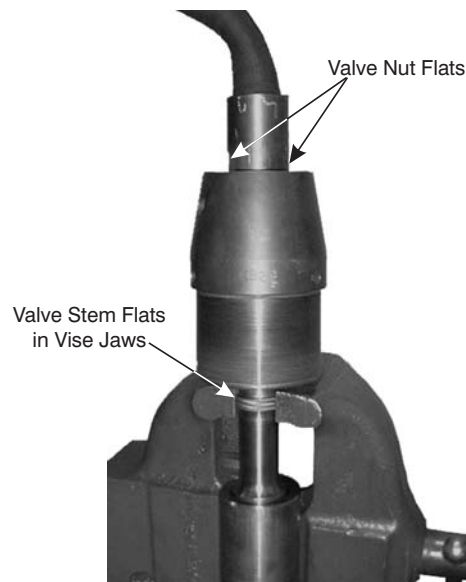

Figure 8-7. Place End Cap in Vise.
1. Position the Tail Assembly in a vise so the End Cap (9) and Whip Hose (13) are above the vise jaws. The Valve (6) should be below the jaws, as shown in Figure 8-7.
3. Secure the Tail Assembly in the vise by clamping the jaws firmly across the flats of the Valve Stem (4) as shown in Figure 8-7.